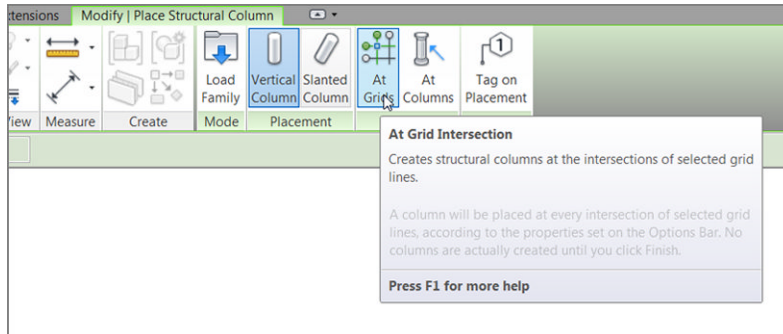

FIGURE 8.29: Using the Place Column At Grids function
2. On the Modify | Place Structural Column tab, click the At Grids button on the Multiple panel, as shown in Figure 8.29.